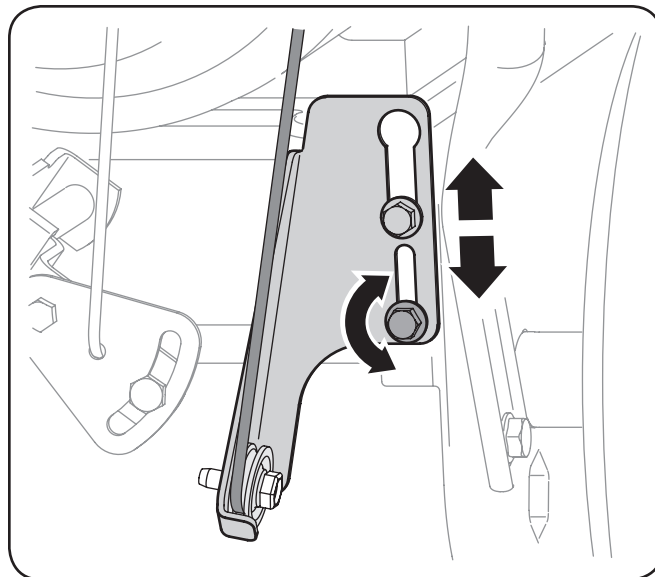

Fig. 6-5
1. Loosen the lower hex screw on the drive cable bracket. See Fig. 6-5.